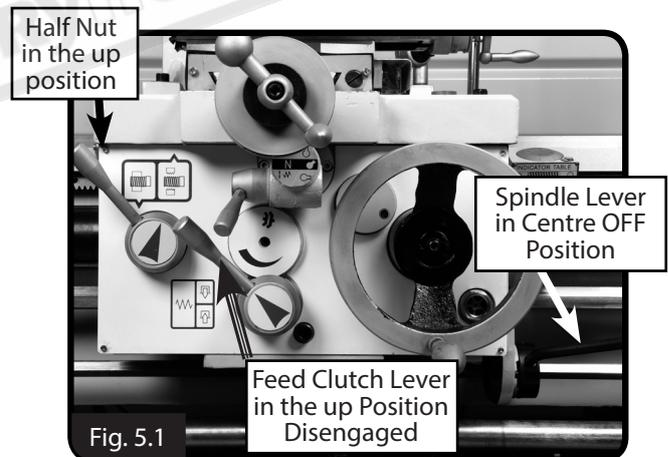

Fig. 5.1
a. To ensure the carriage components do not unexpectedly move during the following steps, disengage the half nut lever and feed selection lever (see Fig. 5.1).
b. Make sure the spindle lever is in the middle OFF position (Fig. 5.1)
e. Move the spindle lever (Fig. 5.1) down to start the spindle. The top of the chuck should turn down and toward the front of the lathe.